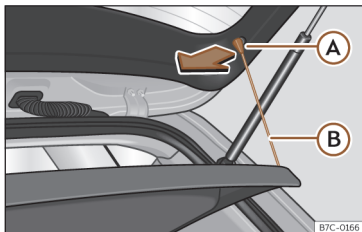

Fig. 171 In the boot: removing and installing the shelf.
- Detach the cord loops >>> **Fig. 171** (B) from their hooks (A).
- Attach the securing straps >>> **Fig. 171** (B) onto the rear lid.